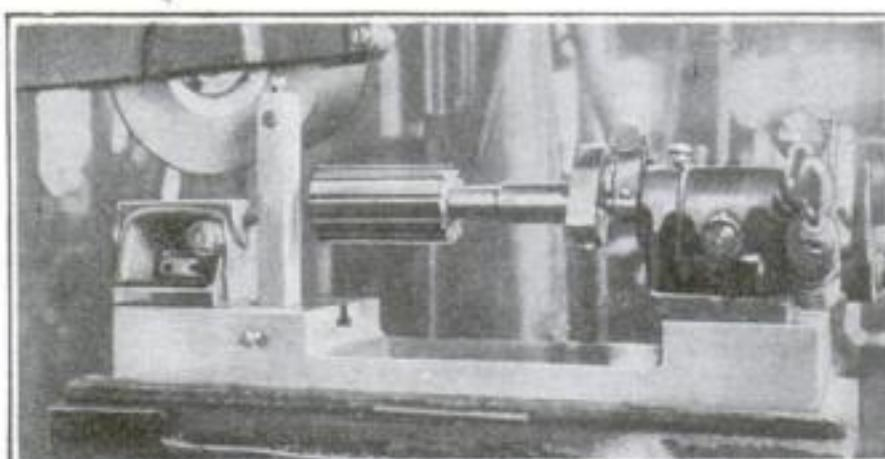

Fig. 1. Set-up for sharpening a special cutter. Note the wheel dressing arrangement and the plate for holding the index centers
**A**SIDE from the ordinary uses of the surface grinder with which toolmakers and machinists are familiar, this adaptable machine may be called into service for operations outside its regular line of work. An example is illustrated in Fig. 1—the sharpening of a formed cutter for knurling tools.